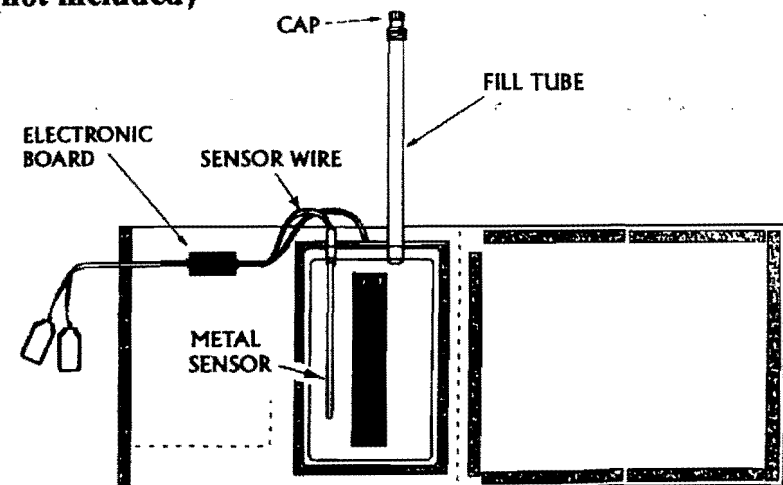

Figure 1
- A. Unfold the bag carefully observing the location of its contents until the material is completely open. (See figure 1)
- C. The heater pad is placed under the bag in the position indicated in Figure 1.